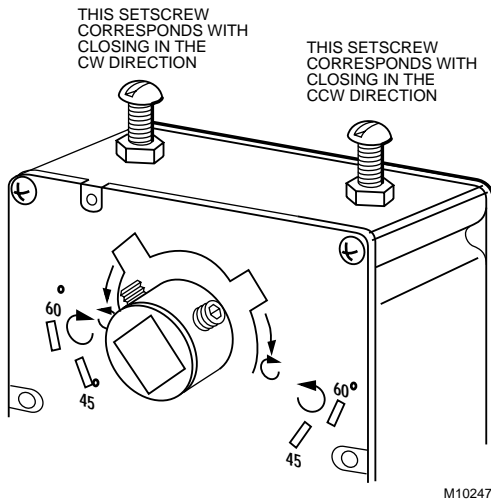

Fig. 8. Setscrew location for ML6161 and ML6174.
Certain ML6161, ML6174 and all ML7161, ML7174 models are equipped with two tapped holes located in the plastic housing at the top of the actuator. These holes can be used with the minimum position setscrew and locknut inside the 4074ENJ Bag Assembly (see Fig. 8). The setscrew provides for a 0° to 30° minimum position adjustment.
3. Determine the correct hole for the setscrew using Fig. 8 and the results of step 1.